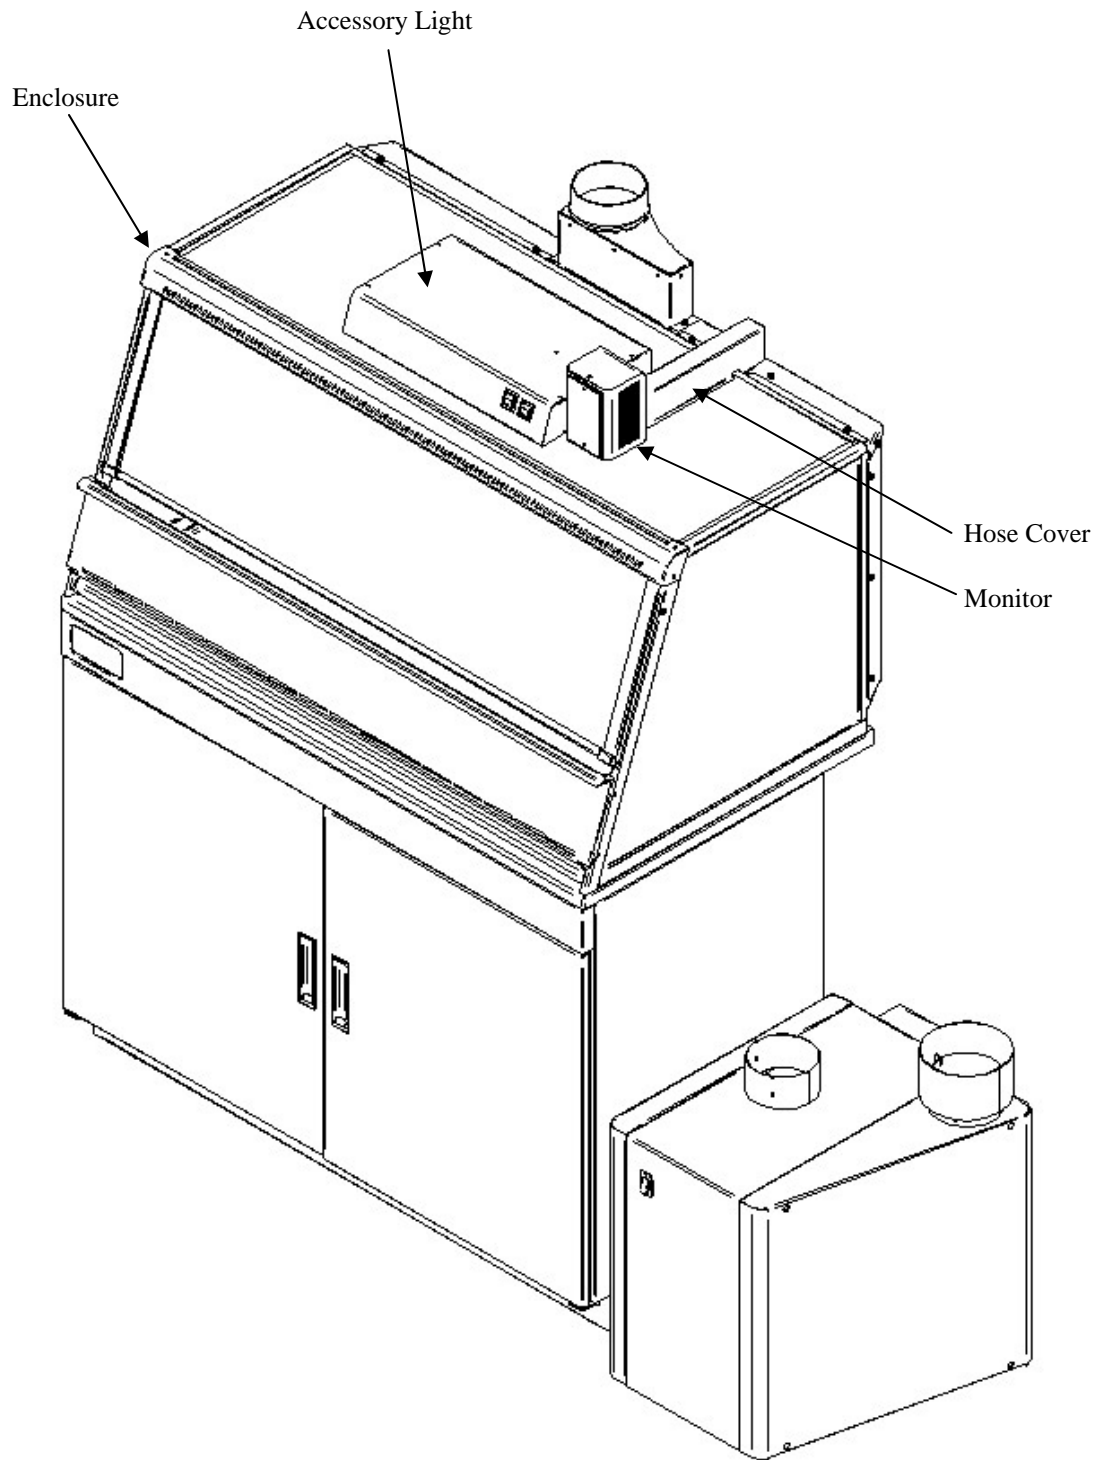

Figure 3
4. Secure the Guardian Digital alarm to the enclosure with double stick tape as shown in Figure 3. The airway passage between the alarm module and the enclosure is now complete.
5. Locate the metal hose cover and install with double stick tape per Figure 3. (Omit this step on the Protector Work Stations.)